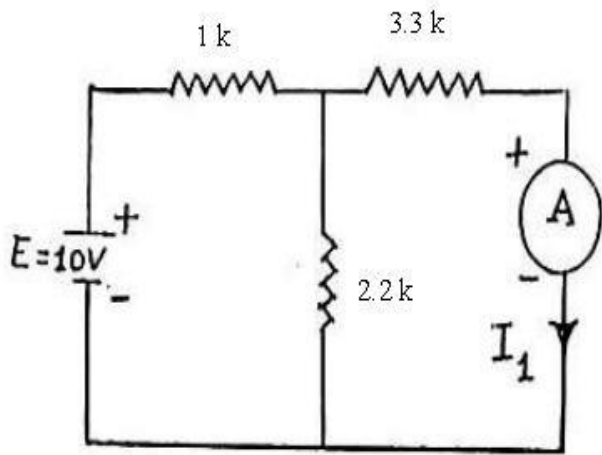

Figure.1
2. Adjust the supply voltage to 10 V in Figure 1
1. Make the connections as per the circuit diagram shown in fig 1.